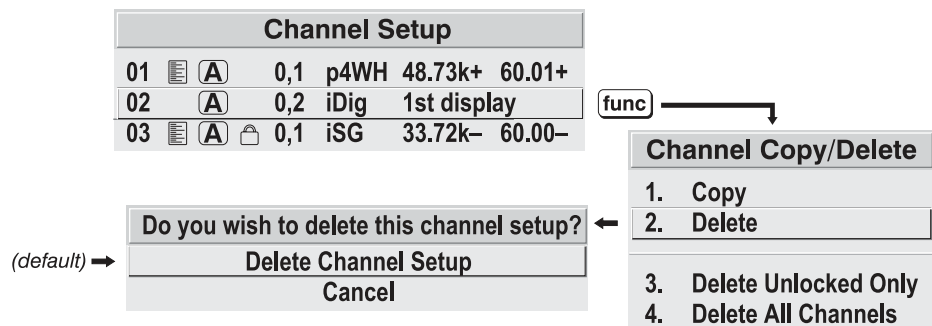

Figure 3.5. Deleting a Channel
**TO DELETE A CHANNEL**, highlight the desired channel in the *Channel Setup* menu, then press **Func** to activate the *Channel Copy/Delete* submenu. Select “Delete” and press **↵** — a confirmation window will appear to make sure that you really want to delete this channel. See figure 3.5